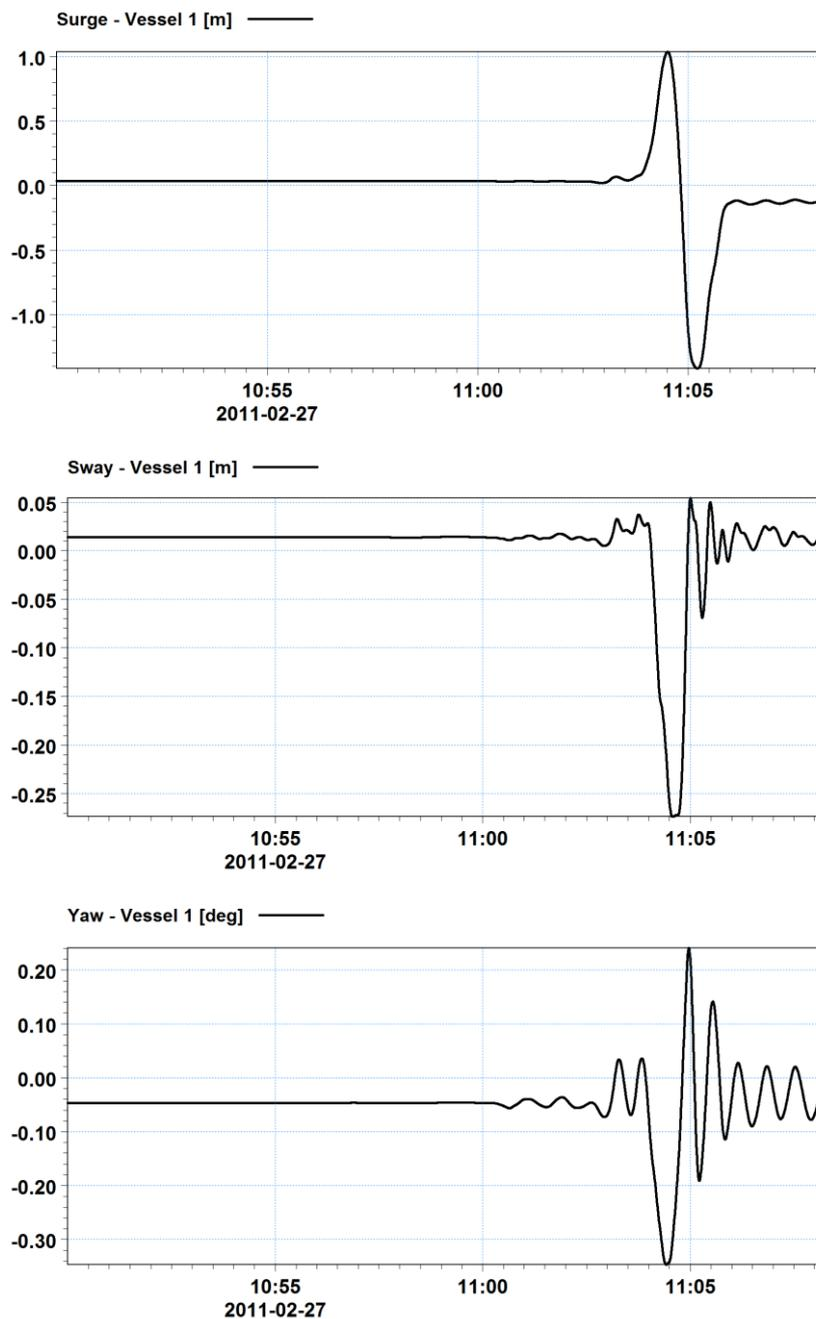

Figure 3.25 Passing vessel induced moored vessel motions - surge, sway and yaw
- Open the newly created *Vessel1\_motions.dfs0* file and plot the *Surge, Sway and Yaw motions*. You should see that the vessel is stable until around 11:05 when the passing vessel generated displacement waves arrive at the berth and induce a large surge motion of the moored vessel. Motions in the other degrees of freedom are relatively small. Your plotted surge, sway and yaw motions should appear as shown in Figure 3.25.